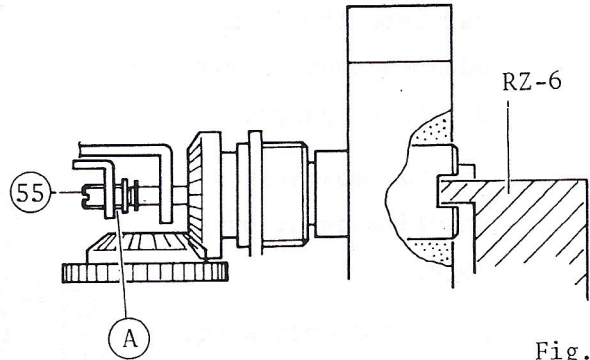

Fig. 99
1. When the signal lever is disengaged out of the slot, push the signal bar with the RZ-6 gauge (3.9). (Fig. 99)
2. Screw in the (55) adjusting screw on the end of the signal lever until it touches the signal bar.
3. Set a snap ring to the (A) part and turn the screw counter clockwise and then apply some adhesive to the screw.